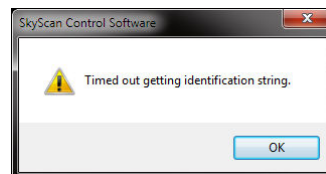

Figure 10: SkyScan Not Found
- If a SkyScan device was not found on the serial port you will get a message similar to the one in Figure 10. This indicates that either the **Port** selection in the **SkyScan Settings Dialog** is incorrect or the SkyScan is not powered on.